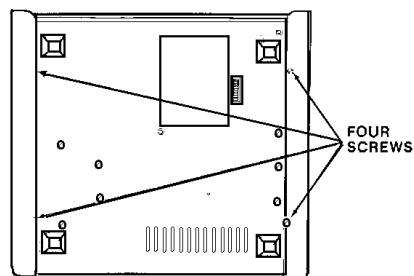

Figure 12. Cover Assembly to Chassis Mount.
- 6.1.3 Remove four screws attaching cover assembly to chassis (See Figure 12).